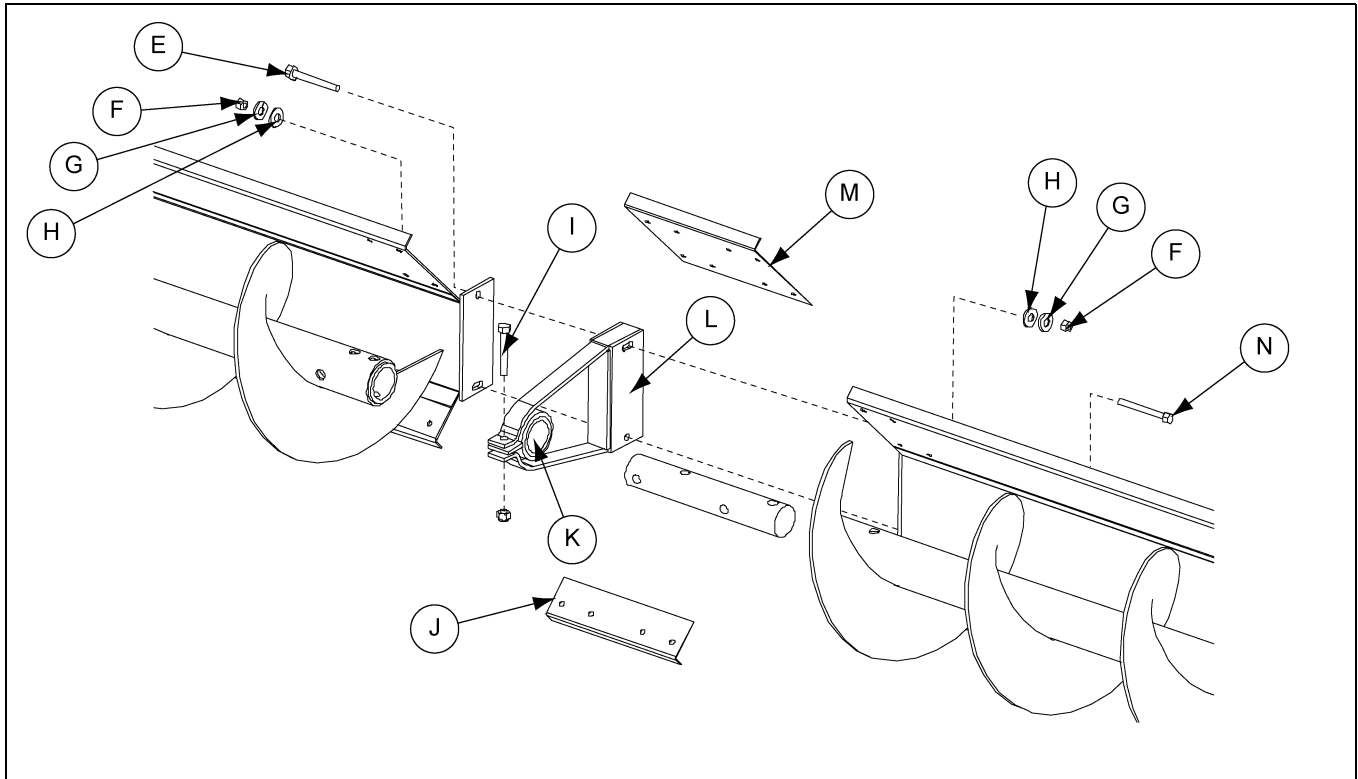

Figure 4I Bearing Stand Assembly
3. Bolt the bearing holders (K) to the inside of the bearing stands (L). Use a 7/16" x 1-1/2" long hex head cap screw and nylon lock nut to secure the bearing holder (K) to the bearing stand (L). (See Figure 4I on Page 22.)
4. Place the bearing stand (L) between the first sweep back shield section and the next section to be used. Bolt the sweep back shield sections to the bearing stand (L) by using two (2) 3/8" x 3" long hex head cap screw (N), two (2) flat washers, two (2) lock washers and two (2) nuts. (See Figure 4I on Page 22.)